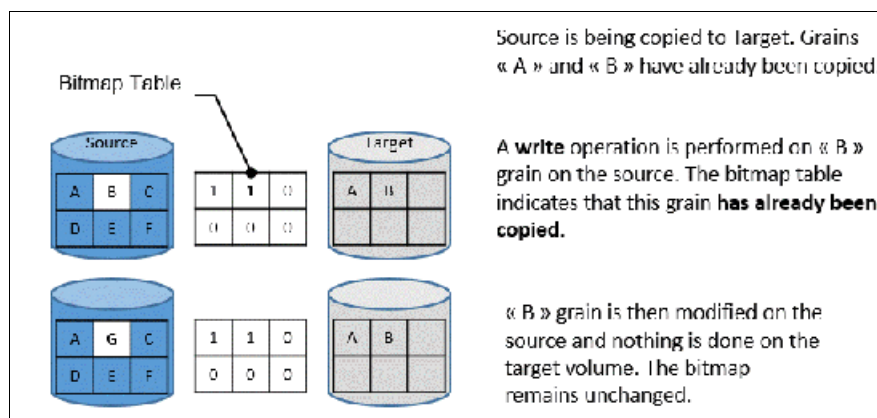

Figure 10-5 Modifying a copied grain on the source
- If the bitmap indicates that the grain was copied, the source grain is changed and the target volume and the bitmap table remain unchanged, as shown in Figure 10-5.